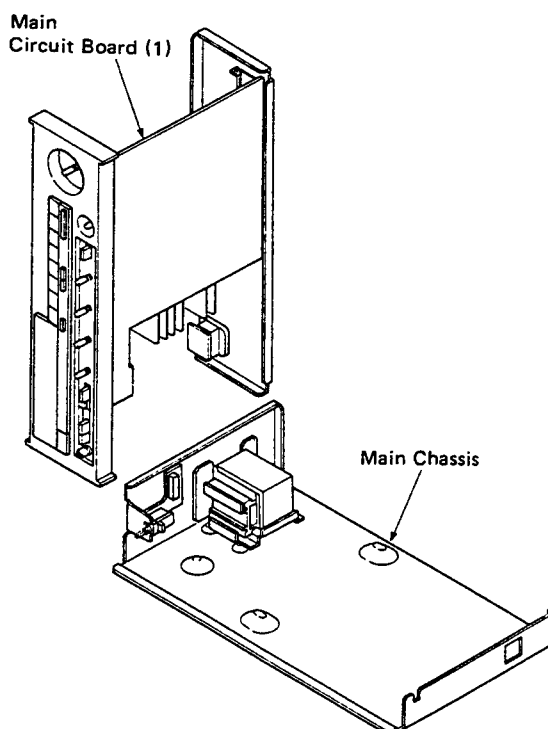

Fig. 2
c. Remove the Main Chassis as shown in Fig. 2